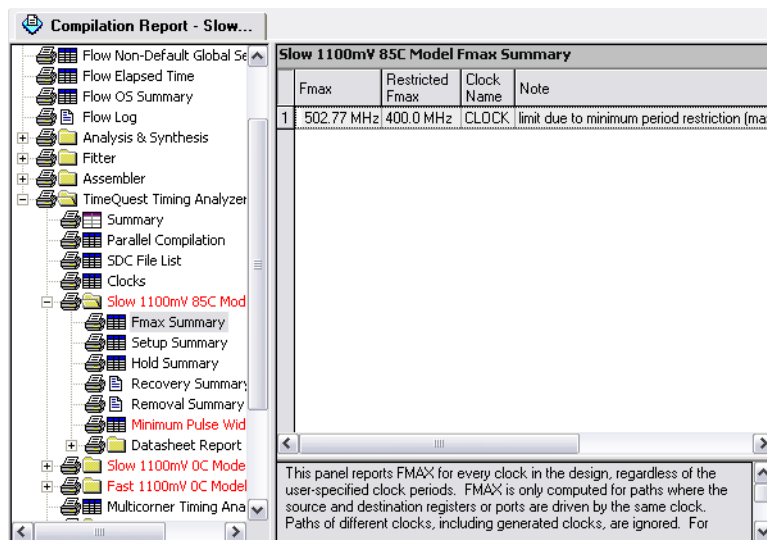

Figure 37: New timing results.
- The new timing results are shown in Figure 37. The new f_{max} is 502.77 MHz, which meets the specified requirement.